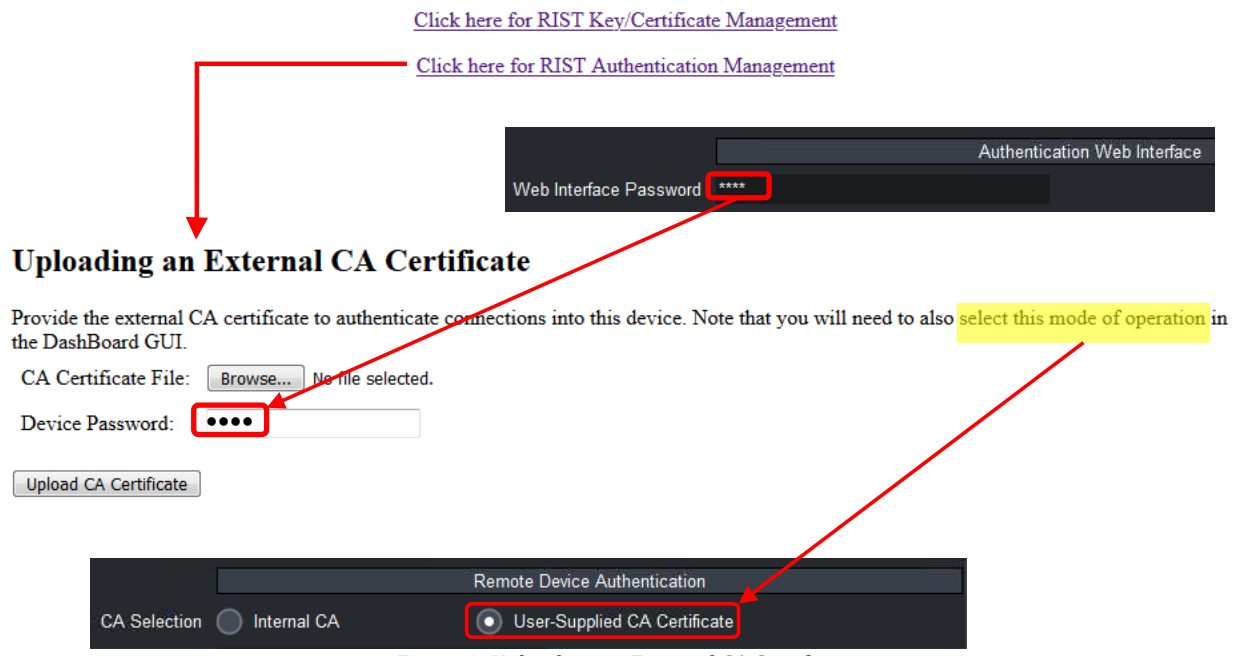

Figure 9: Uploading an External CA Certificate
2. Load the CA Certificate in every Cobalt device. Figure 9 shows how to do this.
The process of loading an external CA certificate in the Cobalt device (Step 2) is shown in Figure 9:
The device will check out the certificate for correctness and validity, and, if accepted, will save it. If the certificate is accepted, it can now be selected in DashBoard, as shown in Figure 9.
Figure 13 shows how to obtain the device's internal CA certificate for Step 2. No password is needed because the certificate does not need to be kept confidential. Use the process shown in Figure 9 to install the CA certificate in each Cobalt device.
If you intend to use this as the CA for Cobalt devices, upload the **CA\_CERT.PEM** file using the procedure illustrated in Figure 9.